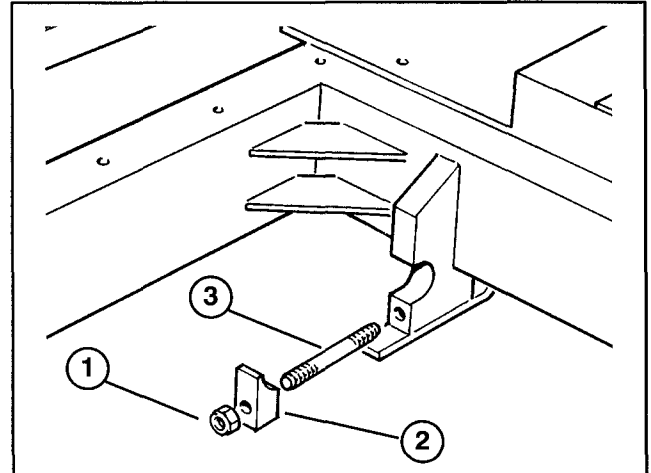

Figure 45
10. Remove (2) locknuts securing coring head to chassis (Fig. 45).